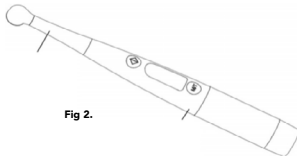

Fig 2.
2. As shown in Figure 2 below, it is the state diagram of the connection between the handle and the machine head. The machine head can rotate 360 degrees, and the appropriate treatment Angle can be selected according to the use habits and the actual situation.